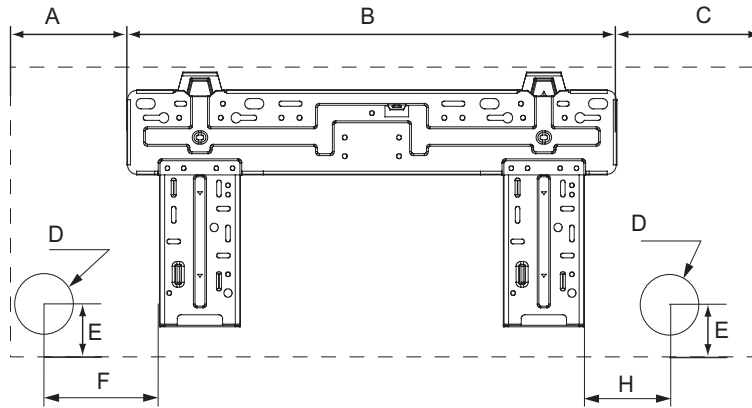

Fig. 2 – Indoor Mounting Plate
2. The mounting plate should be located horizontally and level on the wall. All minimum spacings shown in Fig. 2.